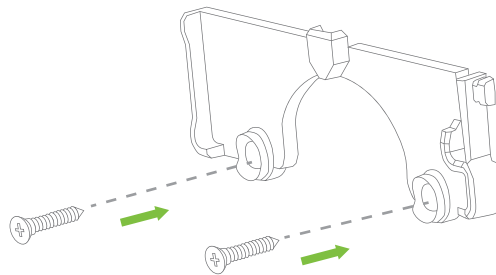
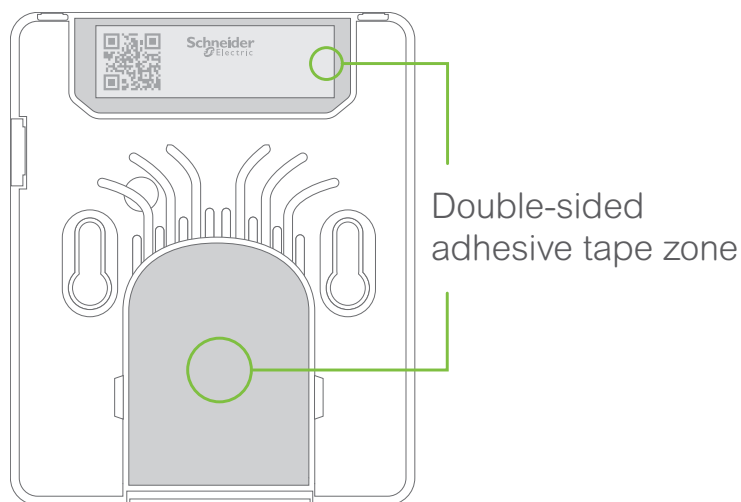
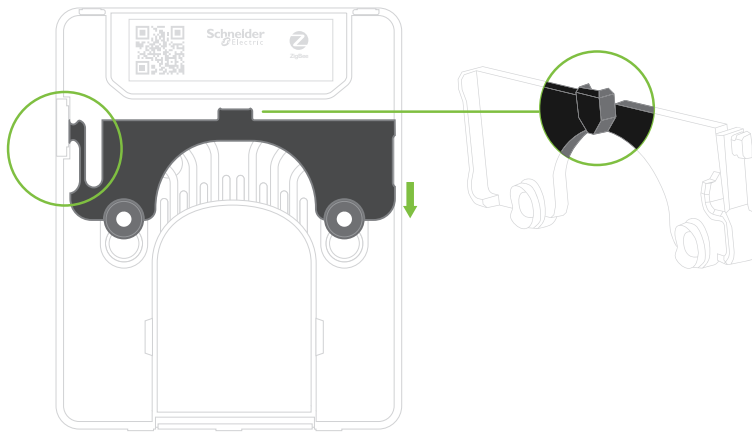

Figure 1
Figure 2
Figure 3
The wireless CO₂ + TRH sensor can be secured directly on a wall or flat surface using double-sided adhesive tape (Fig.2), or by securing the plastic bracket to the wall (Fig.1) and mounting the sensor (Fig. 3). Using the screws is the recommended method.
1. Using two screws provided, secure wall bracket to wall (Fig. 1).
3. Ensure click sound is heard to verify sensor is secured to bracket and ensure side tab of bracket is aligned with opening on side of sensor (Fig. 3).
To remove the sensor from the wall bracket, press on the side tab as circled in Fig.3 and slide the sensor up and then out.